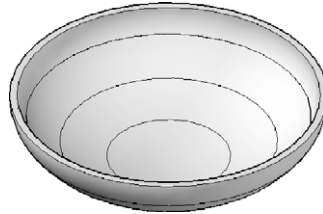

Fig. 12.21 Second example – Revolve
### Second example – Revolve (Fig. 12.21)
7. Place in **Visual Styles/Shades of Gray** (Fig. 12.21).